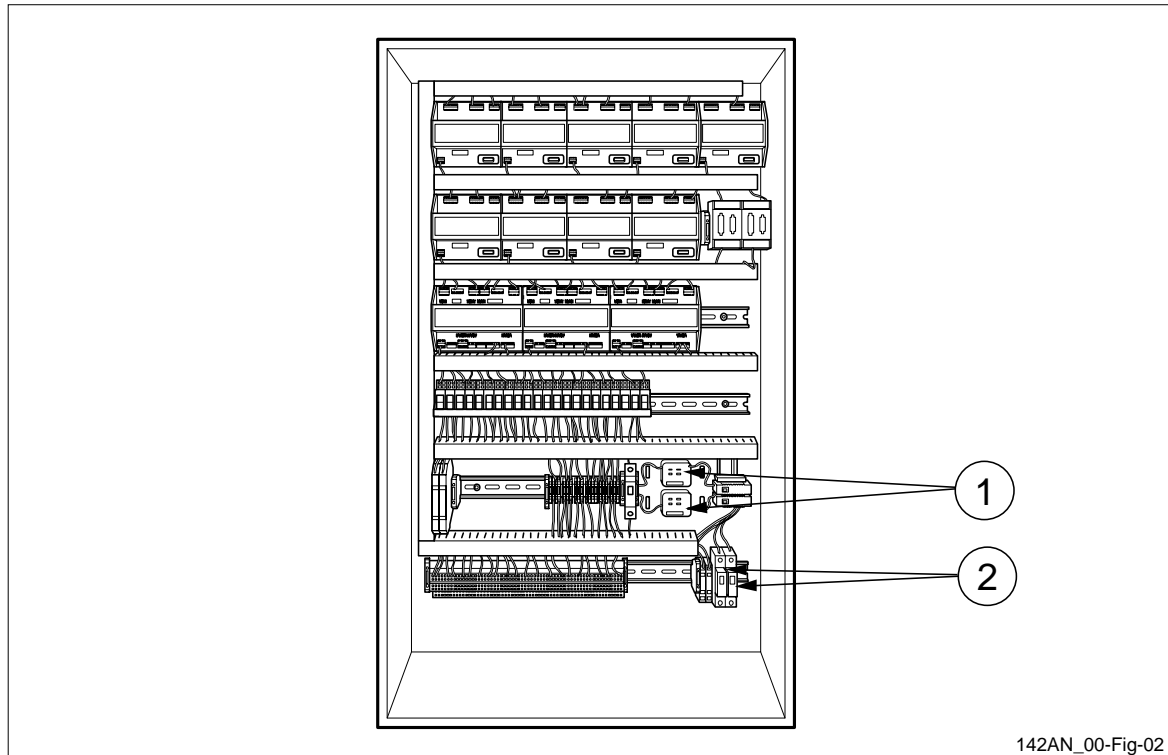

Figure 1 Filter units in a bridge unit cabinet.
1. Open the cabinet and make sure the incoming power is interrupted by setting the automatic fuses (see position 2 in figure 1) to position OFF.